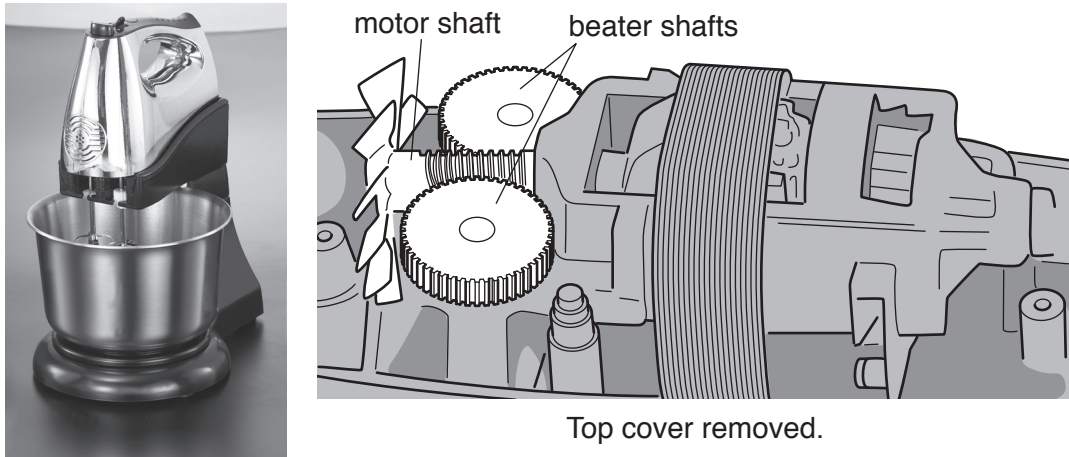

Fig. 4
- 17 Fig. 4 shows an example of a food mixer and a view with the top cover removed. A gear system is used to rotate the beater shafts.
- (a) (i) Name the gear system shown in Fig. 4.
- (c) A range of materials are used in the manufacture of the food mixer shown in Fig. 4.